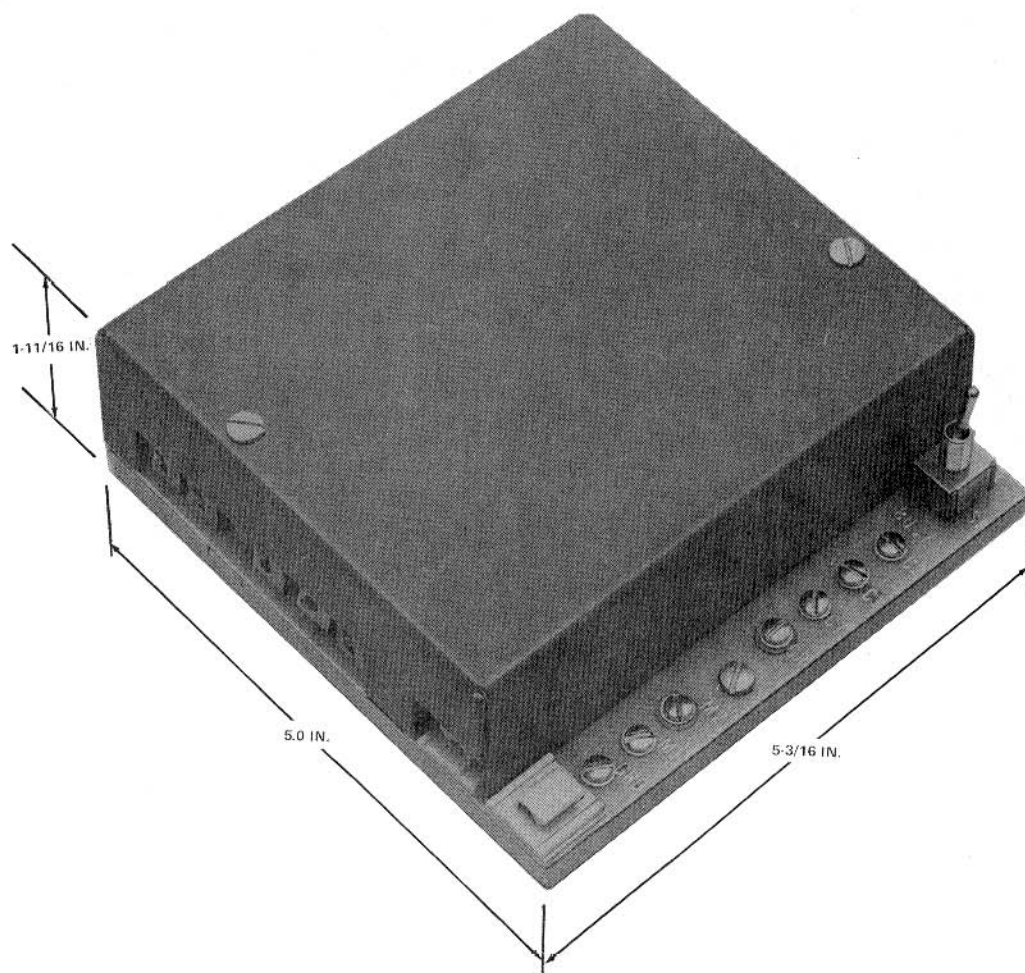

Fig. 1—278A Paging Adapter
- Approximate dimensions are 5.2 inches wide, 5.0 inches long, and 1.68 inches high (Fig. 1).